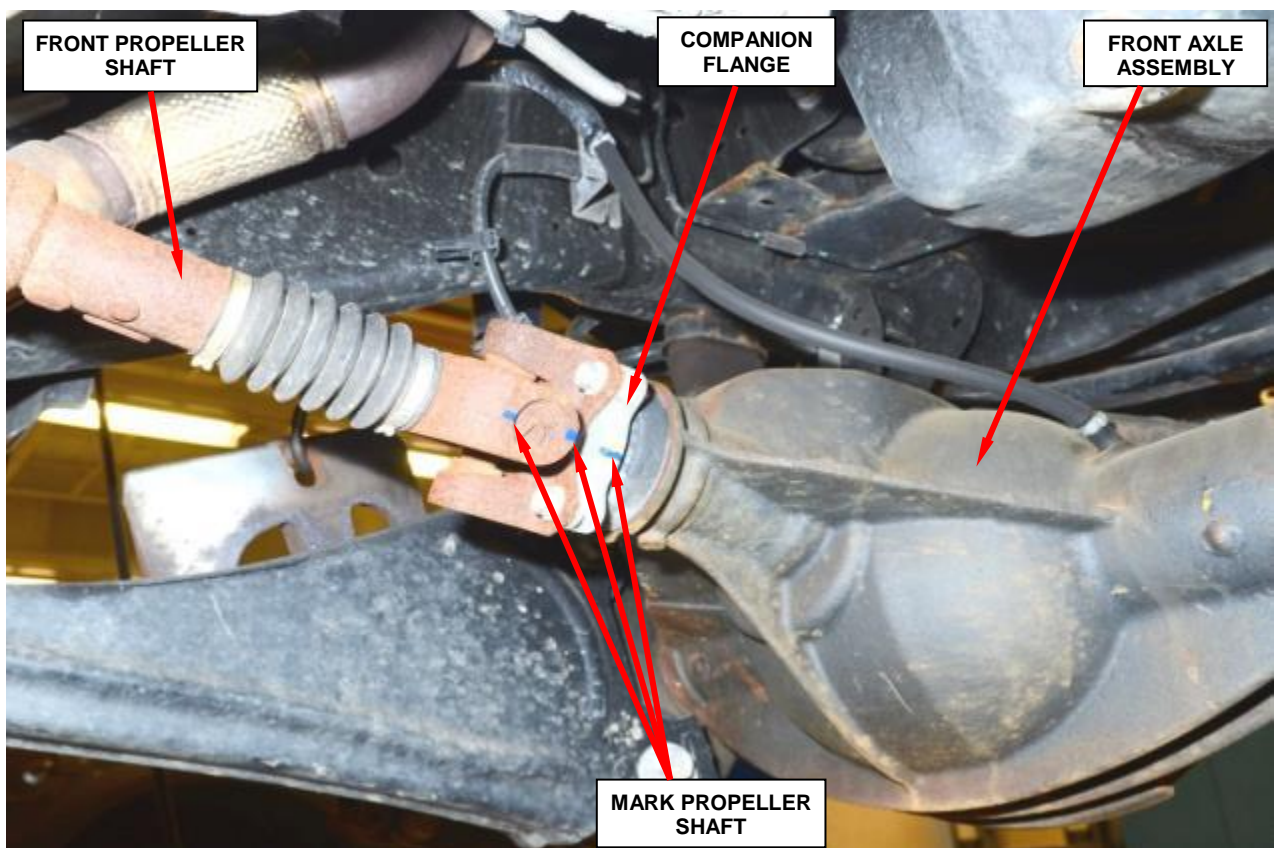

Figure 5 – Mark Front Propeller Shaft
11. **For vehicles with four wheel drive**, mark and then disconnect the front propeller shaft from the front axle companion flange (Figure 5).